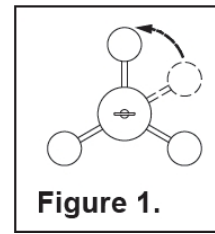

Figure 1.
2. If SUPPORT ARMS on FIXTURE ASSEMBLY are collapsed when shipped, Carefully separate ARMS by gently and evenly spreading them apart. See Figure 1.